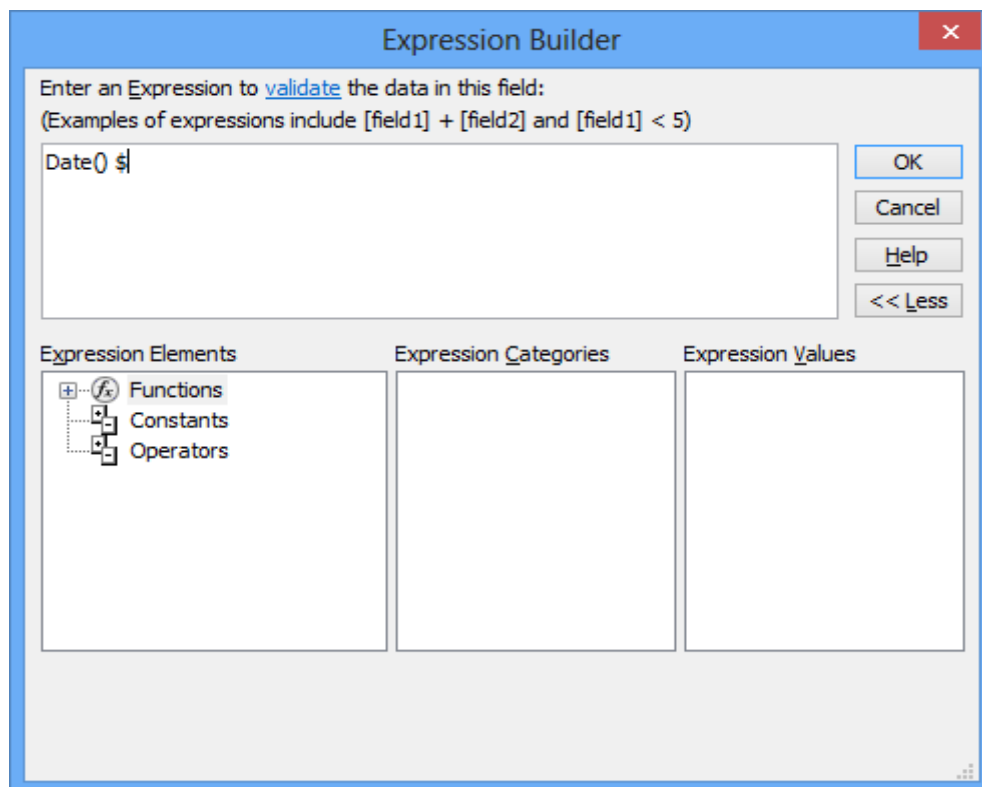

Figure 8: Expression Builder Containing the Date\$ Function.
- Figure 8 shows a date string expression appropriate for a *Default Value* property. The value in the expression area was created after double-clicking the `Date$` function in the rightmost pane.